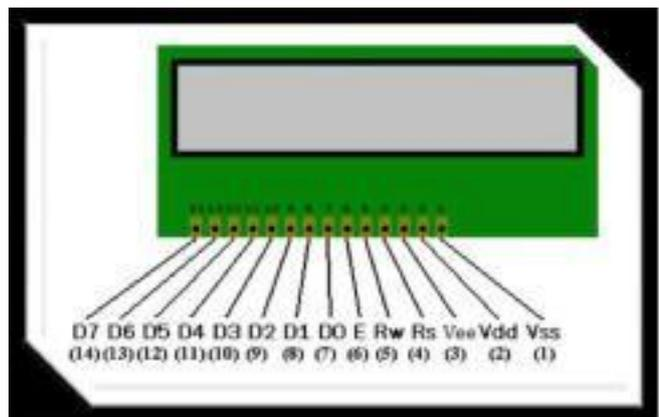

Figure 4: LCD pin-out
As you can see from Figure 4, the LCD connects to the microcontroller through three control lines: RS, RW and E, and through eight data lines D0-D7. With 16-pin LCDs, you can use the L+ and L- pins to turn the backlight (BL) on/off.